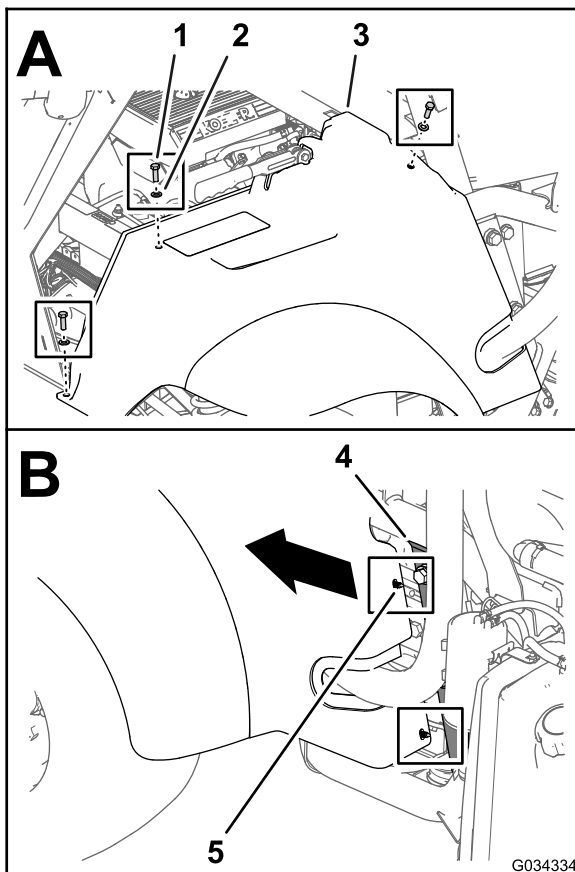

Figure 3
1. Remove the 3 bolts (5/16 x 1 inch) and 3 washers (5/16 inch) that secure the left seat base and fender to the chassis of the machine (Figure 3).
2. Move the seat base and fender forward to unseat the 2 plastic-clip anchors of the seat base from the 2 holes 6.4 mm (1/4 inch) in the channel for the ROPS at the left side of the machine (Figure 3).